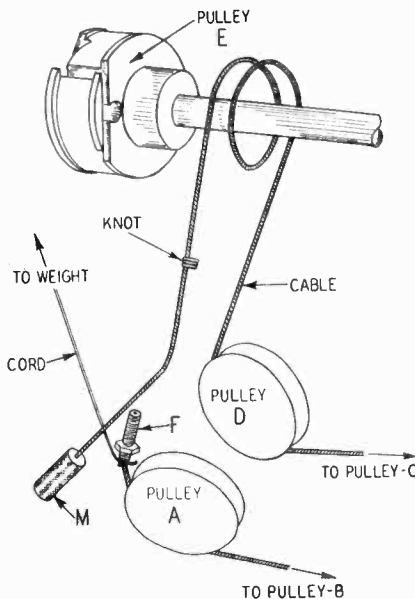

Fig. 18—Drive Cord Replacement—Step No. 2
(160) Wind the cable LOOSELY one and one-half turns around this shaft, progressing toward the left as shown in Fig. 18.